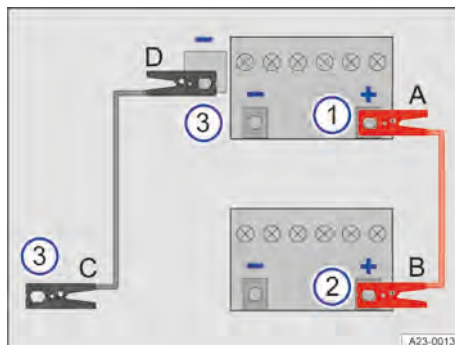

Fig. 187 How to connect the jump leads.
The jump leads must be connected only in the order A – B – C – D → Fig. 187.
2. If present, open the cover of the positive jump-start connection point (+) → Fig. 187 ①, → .
4. Connect the other end of the red jump lead to the positive terminal (+) of the vehicle providing assistance → Fig. 187 ②.
5. Connect one end of the black jump lead preferably to a ground jump-start connection point (–) → Fig. 187 ③ on the vehicle with the 12-volt vehicle battery that is supplying power.
→ Fig. 187 ③.
→ Fig. 187, → ⚠.
Or: if there is no earth jump-start connection point (–), connect the end of the black jump lead to a solid metal part that is bolted securely to the cylinder block or to the cylinder block itself on the vehicle with the discharged 12-volt vehicle battery → Fig. 187 ③.
3. When the engines are running, the jump leads must be removed only in the order D – C – B – A → Fig. 187.